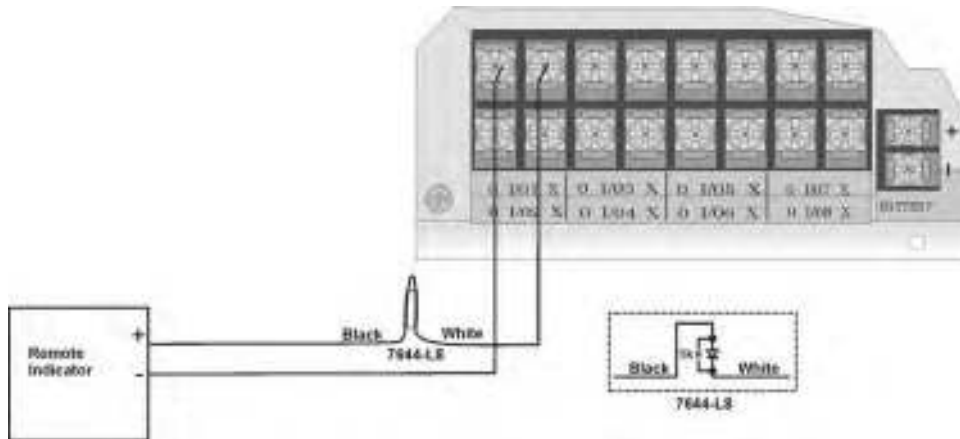

Figure 4-46 Polarity Reversal Connection Using the 7644
- Wired the 7644-L8 to the control panel as shown in Figure 4-46. Do not install an EOL resistor on the terminals of the Flexput circuit used.